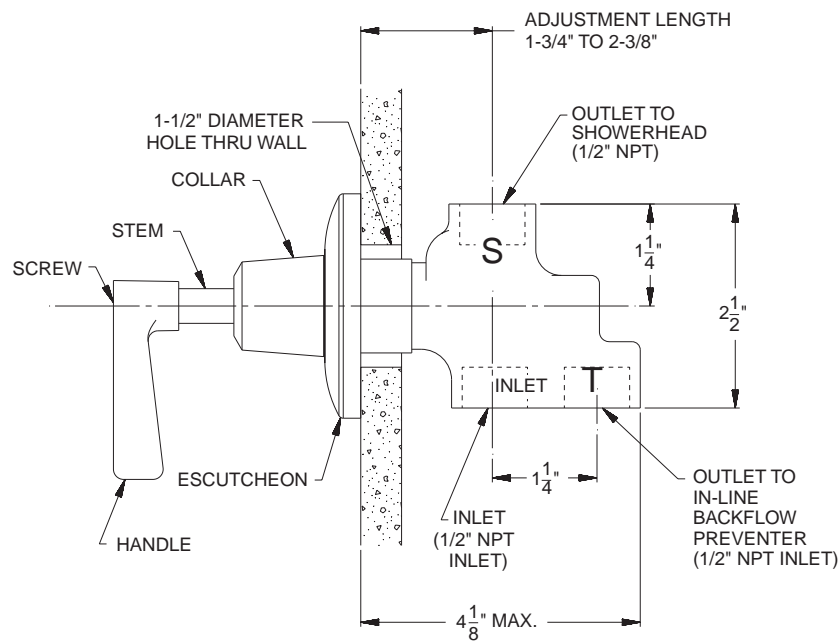

Figure 2
2. Install the diverter by first removing the escutcheon and handle from diverter valve. Remove screw from handle and unscrew valve hub (see Figure 2).
6. Replace handle and escutcheon on diverter valve and secure with screw provided (see Figure 2).